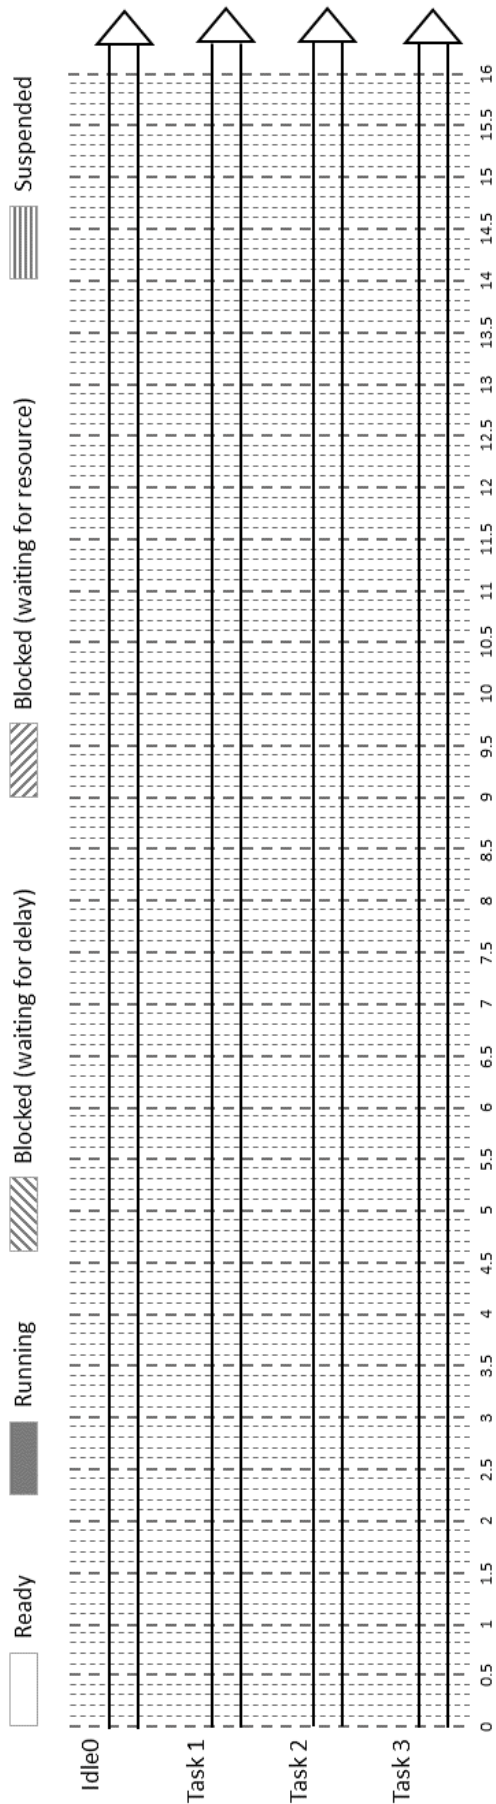

FIGURE 2.1 – Message queue and 3 tasks.
11. Trace in the figure 2.1 the behavior of the 3 tasks until 160 ticks.